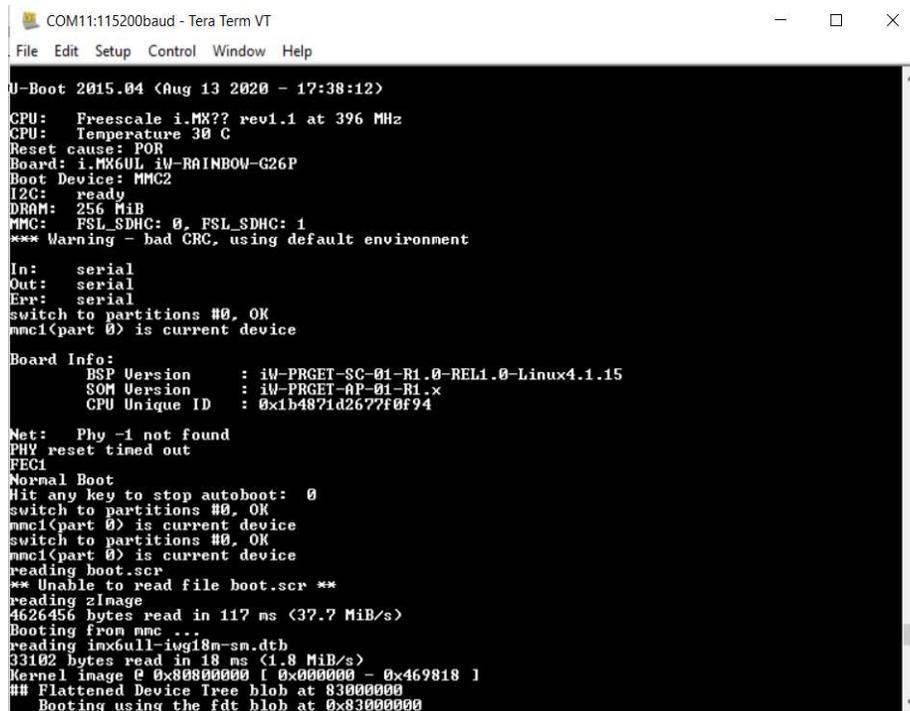

Figure 12: Telematics control unit Boot log
- Power ON the Telematics control unit and the Debug log will appear as shown in Figure 12